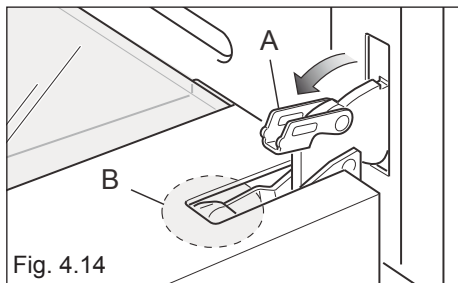

Fig. 4.14
- Fully open the lever "A" on the left and right hinges. (fig. 4.14).
- Gently close the door until left and right hinge levers "A" are hooked to part "B" of the door (figs. 4.14, 4.15).